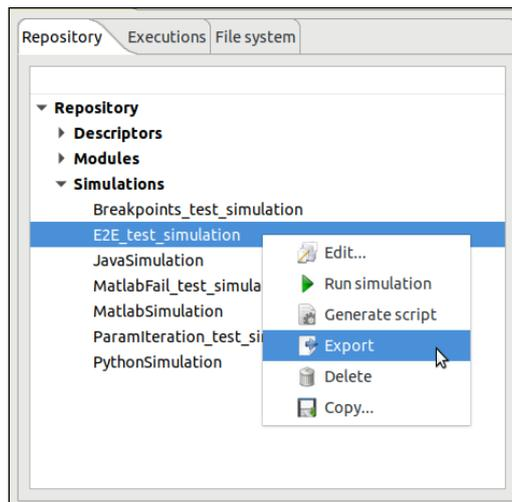

Figure 4-119: Export from the repository menu
1. From the **Repository** menu. In this case, we need to navigate from the “Repository” menu down to the simulation that the user wishes to export. Next, right-clicking over it; the “Export” option appears for selection. This is illustrated in Figure 4-119 below.